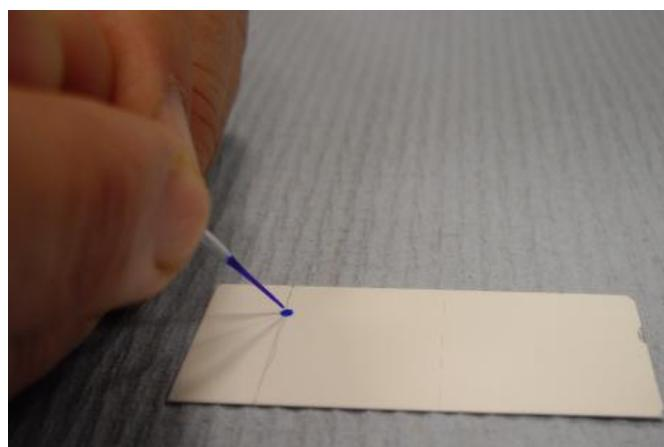

Figure 2. Spotting the dye onto the plate.
3. The next step is to CAREFULLY spot the dye onto the TLC plate WITHOUT damaging the plate. Hold the tip of the capillary as close as possible to the pencil line (Fig. 2) until a SMALL amount of the dye extract is drawn out onto the plate. With practise you should be able to do this without actually touching the plate.